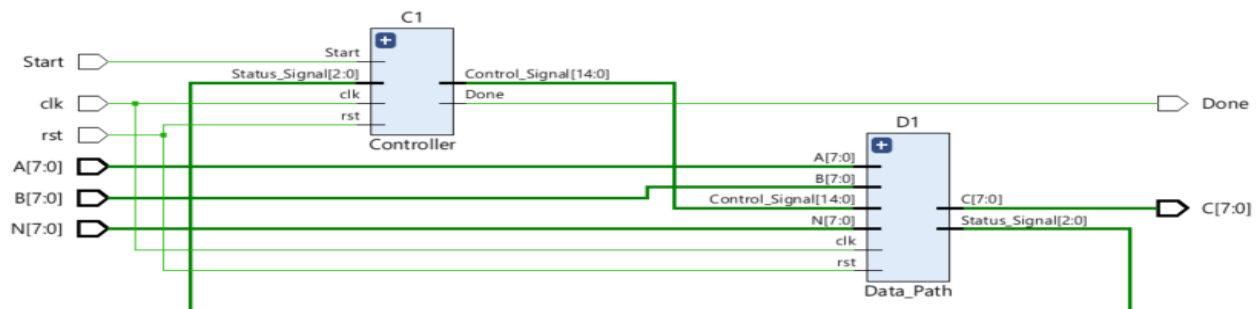

Figure 24
3.b The RTL circuit is shown in Figure 24.